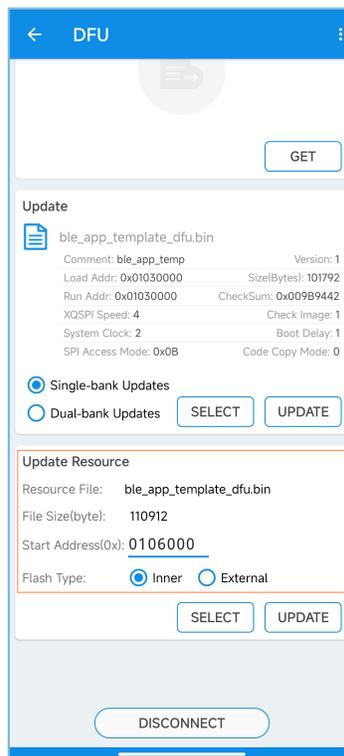

Figure 4-28 Internal Flash resource upgrade
1. Set **Start Address(0x)** and **Flash Type**, as shown in Figure 4-28.